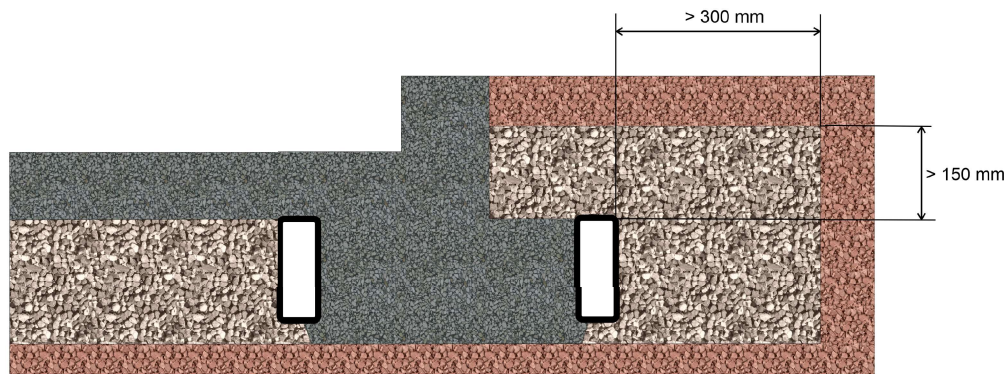

Figure 3. Gravel placed first
- When the lineal is elevated from the subgrade and gravel installed before the concrete is poured (Figure 3), gravel must be removed from the surface intended to receive the concrete to ensure the actual footing volume is as intended by design.